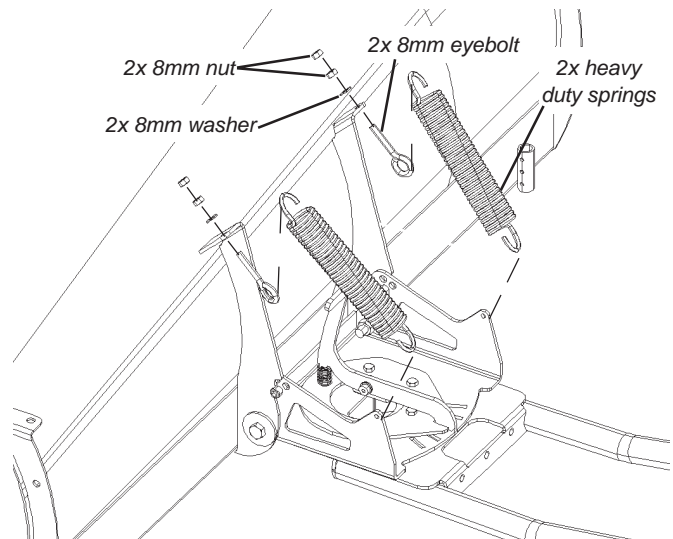

Figure 4 Assemble Plow Springs
5. Assemble the plow springs as shown in figure 4. Slide a 8mm dia eyebolt up through the small hole located on the center bent flange on the plow blade. Terminate the eyebolt with a 8mm dia washer and nut. Hook the heavy-duty plow spring onto the rear of the side flange of the plow base, and to the eyelet of the eyebolt. Tighten the 8mm nut until there is tension on the spring (i.e.; it is difficult to remove the spring from the eyebolt). Once the desired tension is determined, terminate the eyebolt with a second 8mm dia nut and tighten it against the first 8mm dia nut. If installed correctly, the nuts should not be able to rotate off the end of the eyebolt.